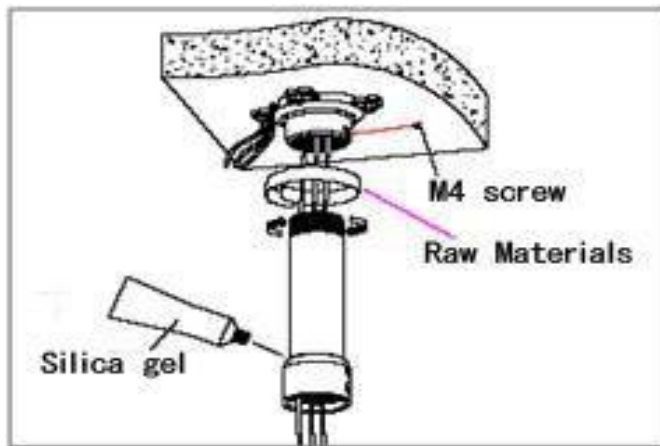

Fig 21
c. As shown in the fig 21, tighten the boom with electrical wire and cable through it on the base of ceiling and screw up the M4 screw.